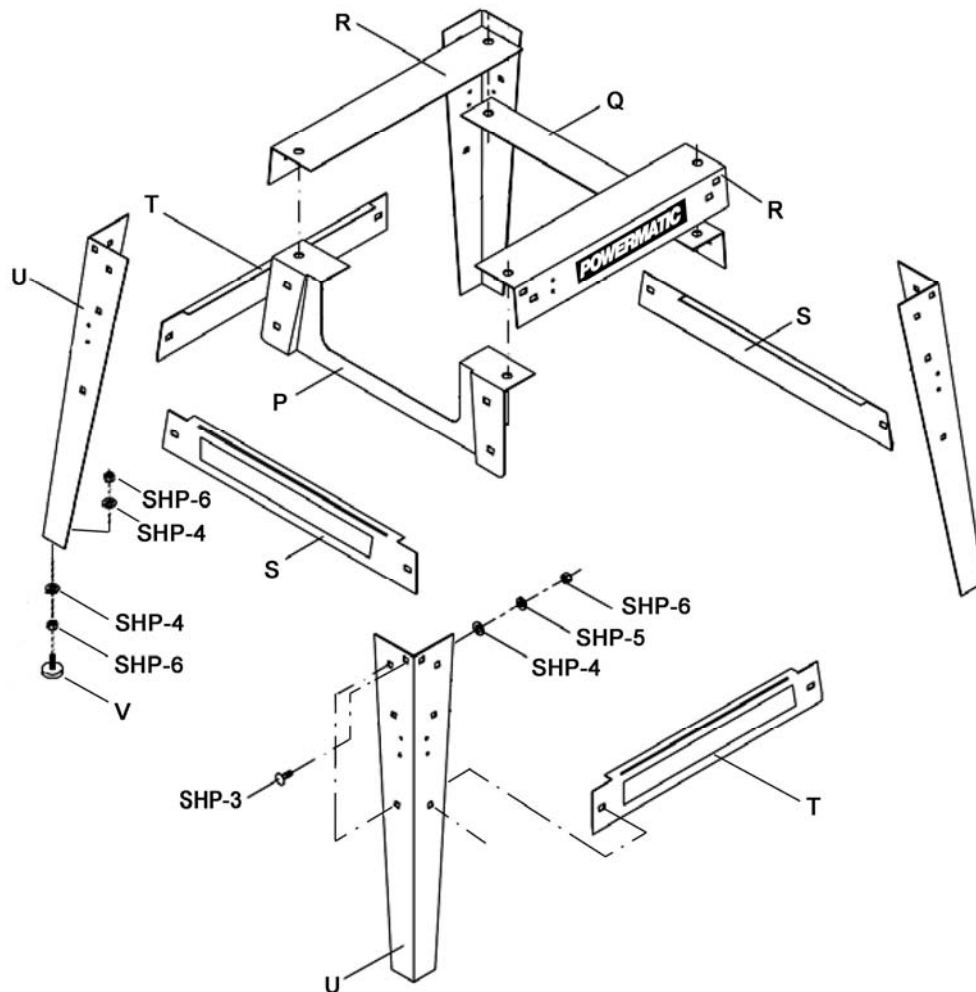

Figure 8
1. Assemble stand, using Figure 8 as a guide. Use the provided carriage bolts, flat washers, lock washers, and hex nuts (SHP-3/4/5/6).
2. Note the orientation of the cut-out brace (P) to the front brace with Powermatic label (R). The cut-out brace must be to the left, to allow protrusion of the motor.
3. When stand has been assembled, turn it over and install the rubber foot pads (V). (Should you ever need height adjustment on the foot pad, loosen the two hex nuts, rotate the pad, then retighten the hex nuts against the metal of the stand.)